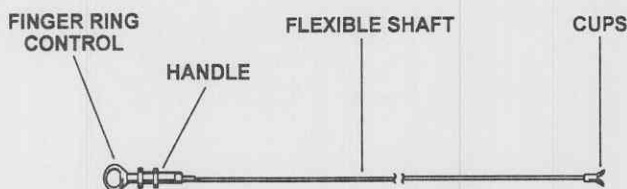

Figure 1-3. Biopsy forceps.
(2) *Biopsy forceps (fig 1-3).* The biopsy forceps are flexible to acquire biopsy specimens with minimal bleeding. The action of the biopsy forceps is manipulated with the finger ring control and handle.